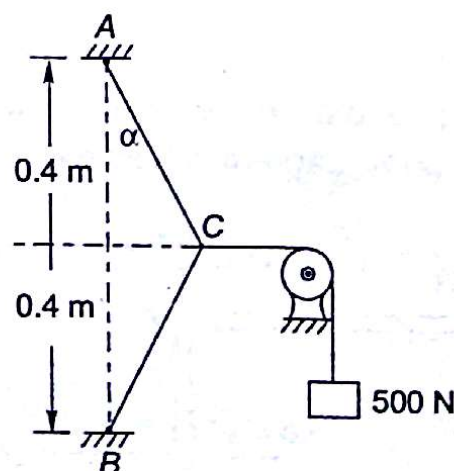

Fig. 3.51
3.5 An elastic string AB is just taught before a force of 500 N is applied at its centre at C , as shown in the Fig. 3.51. If the string takes 4 N/mm of elongation in string, at what angle α , equilibrium will be maintained after the application of force?